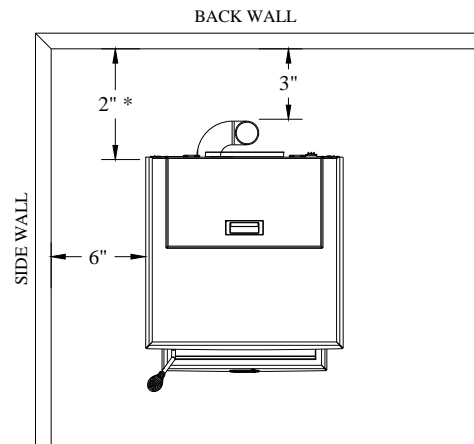

Figure 1
The ECO-35 has been tested and listed for installation in regular and mobile homes.(refer figure 1 & 2)
1. Position stove, adhering to clearances shown in Figures 1 & 2.
5. Position the stove, adhering to the clearances in Figures 1 & 2.
1. Position the stove, adhering to the clearances in Figures 1 & 2. Mark the center of the hole where the pipe is to pierce the masonry chimney.